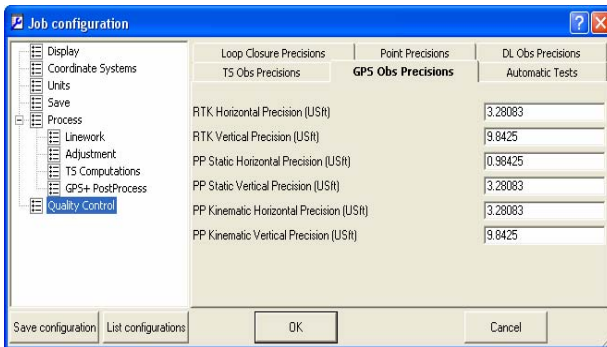

Figure 2-33. Job Configuration – GPS Obs Precisions
- The *GPS Obs Precisions* tab sets horizontal/vertical precisions for RTK vectors and static/kinematic GPS post processing vectors (Figure 2-33 on page 2-24). If the values for horizontal  $\sqrt{(Res(e))^2 + (Res(n))^2}$  and vertical residuals for RTK and GPS post-processed vectors resulting from a net adjustment—with Rejection Criterion-By Control—are worse than the values set in this tab, the observations are highlighted in red on the *GPS Obs* tab, in Map view, and in Reports. If the values of horizontal precision/vertical precision for RTK and GPS post-processed vectors calculated in the process of net adjustment are worse than the values set in this tab, the observations are highlighted in red on the *GPS Obs* tab, in Map view and in Reports, and will not be used in the final adjustment of the net.